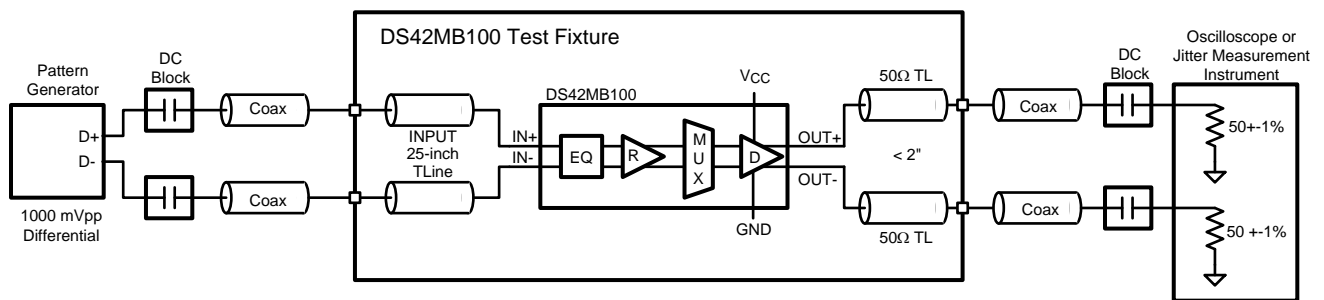
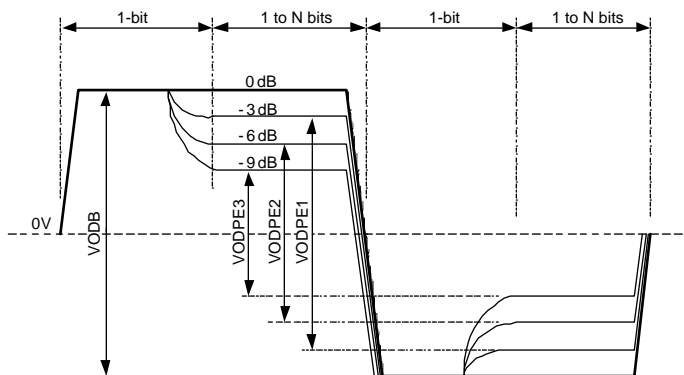

Figure 6. AC Test Circuit
Figure 9. Driver Pre-Emphasis Differential Waveform (Showing All 4 Pre-Emphasis Steps)
| V_{ODB} | Output differential voltage swing without pre-emphasis ⁽⁴⁾ | $R_L = 100 \Omega \pm 1\%$ DES_1 = DES_0 = 0 DEL_1 = DEL_0 = 0 Driver pre-emphasis disabled. Running K28.7 pattern at 4.25 Gbps. See Figure 6 for test circuit. | 1100 | 1300 | 1500 | mV _{p-p} |
| V_{PE} | Output pre-emphasis voltage ratio $20 \times \log(V_{ODPE} / V_{ODB})$ | $R_L = 100 \Omega \pm 1\%$ Running K28.7 pattern at 4.25 Gbps x = S for switch side pre-emphasis control x = L for line side pre-emphasis control See Figure 9 on waveform. See Figure 6 for test circuit. | DEX_[1:0] = 00 | | 0 | dB |
| RJ | Device random jitter ⁽⁵⁾ | See Figure 6 for test circuit. Alternating 1-0 pattern. EQ and pre-emphasis disabled. | At 0.25 Gbps | | 2 | ps _{rms} |
| DJ | Device deterministic jitter ⁽⁶⁾ | See Figure 6 for test circuit. EQ and pre-emphasis disabled | Between 0.25 and 4.25 Gbps with PRBS7 pattern for DS42MB100 at -40°C to 85°C | | 35 | ps _{p-p} |
| t_R | Differential low to high transition time | Measured with a clock-like pattern at 4.25 Gbps, between 20% and 80% of the differential output voltage. Pre-emphasis disabled. Transition time is measured with fixture as shown in Figure 6, adjusted to reflect the transition time at the output pins. | | 85 | | ps |
The inputs are compatible to most AC coupling differential signals such as LVDS, LVPECL, and CML. The ideal AC coupling capacitor value is often based on the lowest frequency component embedded within the serial link. A typical AC coupling capacitor value ranges between 100 and 1000 nF. Some specifications with scrambled data may require a larger coupling capacitor for optimal performance. To reduce unwanted parasitics around and within the AC coupling capacitor, a body size of 0402 is recommended. Figure 6 shows the AC coupling capacitor placement in an AC test circuit.
The output driver has pre-emphasis (driver-side equalization) to compensate the transmission loss of the backplane that it is driving. The driver conditions the output signal such that the lower frequency and higher frequency pulses reach approximately the same amplitude at the end of the backplane and minimize the deterministic jitter caused by the amplitude disparity. The DS42MB100 provides four steps of user-selectable pre-emphasis ranging from 0, -3, -6 and -9 dB to handle different lengths of backplane. Figure 9 shows a driver pre-emphasis waveform. The pre-emphasis duration is 188 ps nominal, corresponding to 0.8 unit intervals (UI) at 4.25 Gbps. The pre-emphasis levels of switch-side and line-side can be individually programmed.